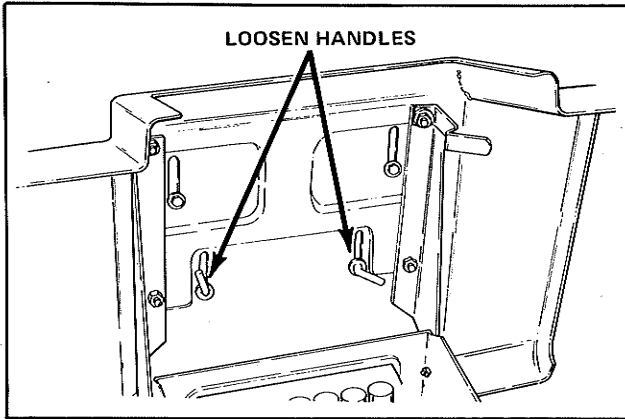

Figure 44. Seat Adjustment
1. Raise the seat deck by lifting the latch on the left side of the seat. (See figure 44.)
2. Loosen the two handles (figure 44) that secure the seat to the seat deck.